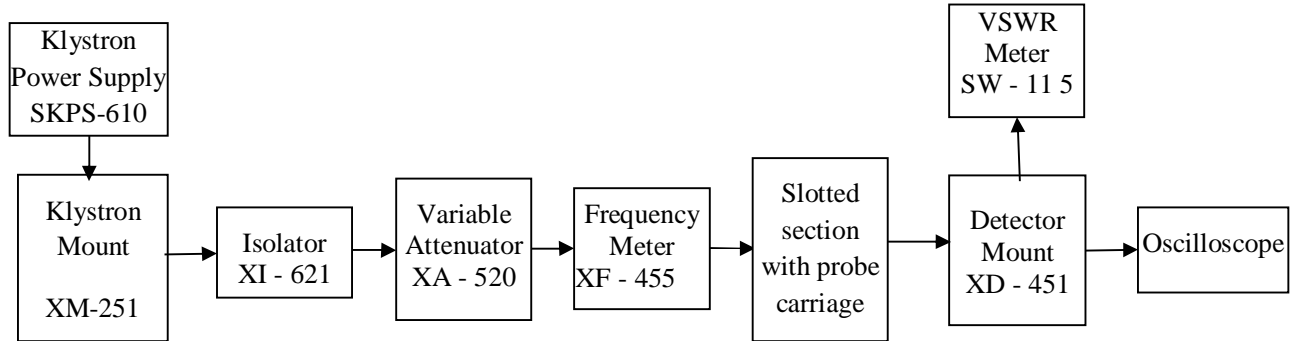

Fig.1.1 Experimental Set up to study characteristics of Klystron tube
1. Set up the equipments as shown in Fig.1.1.